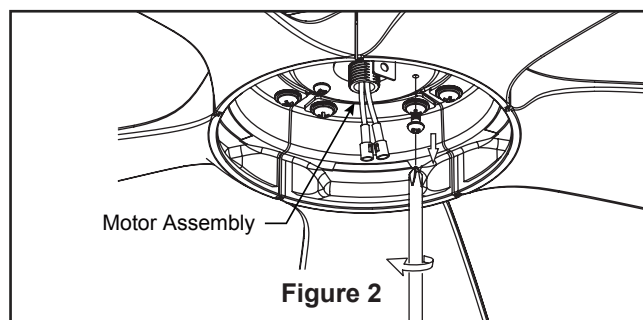

Figure 2
2. Remove one of the three screws in the support bracket at the bottom of the motor assembly and retain the screw for later and slightly loosen the remaining two screws. (Figure 2)
- ☐ 2. Restore electrical power to the outlet box by turning the electricity on at the main fuse box. (Figure 2)